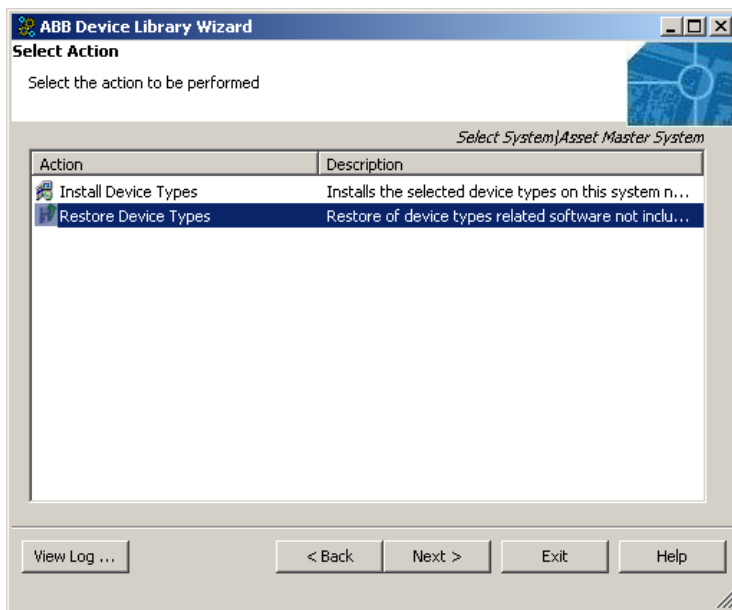

Figure 67. Select Action
- From the list of actions in the resulting screen, as shown in Figure 67, select “Restore Device Types” and click on **Next** button.